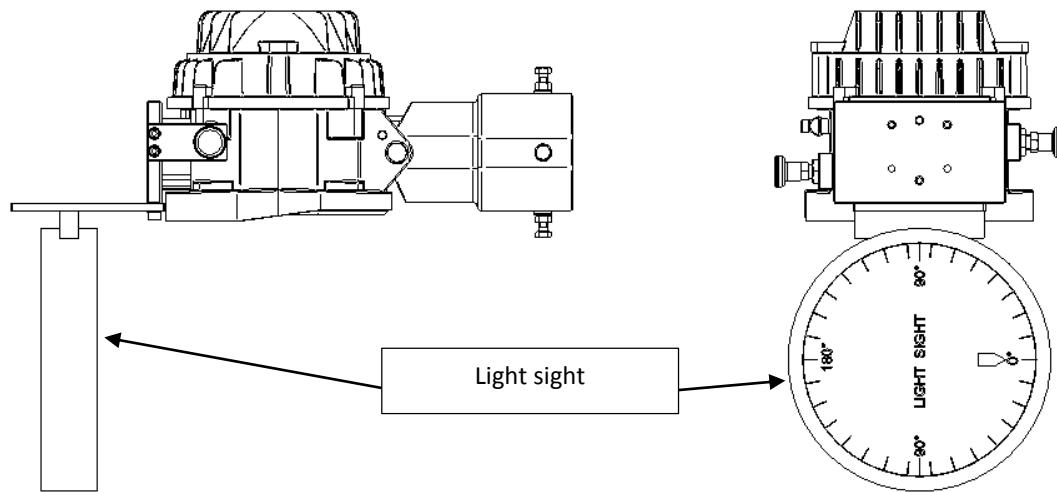

Figure 2: light sight position for horizontal aiming
1. Attach the light sight to the adapter as shown in figure 2.